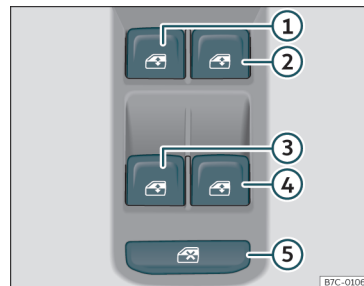

Fig. 116 Detail of the driver door: controls for the windows.
The safety switch  **Fig. 116 ⑤** on the driver door can be used to disable the electric window buttons on the rear doors.
Buttons >>> **Fig. 116** ①, ②, ③ and ④ have two positions for opening windows and two for closing them. This makes it easier to open and close windows to the desired position.